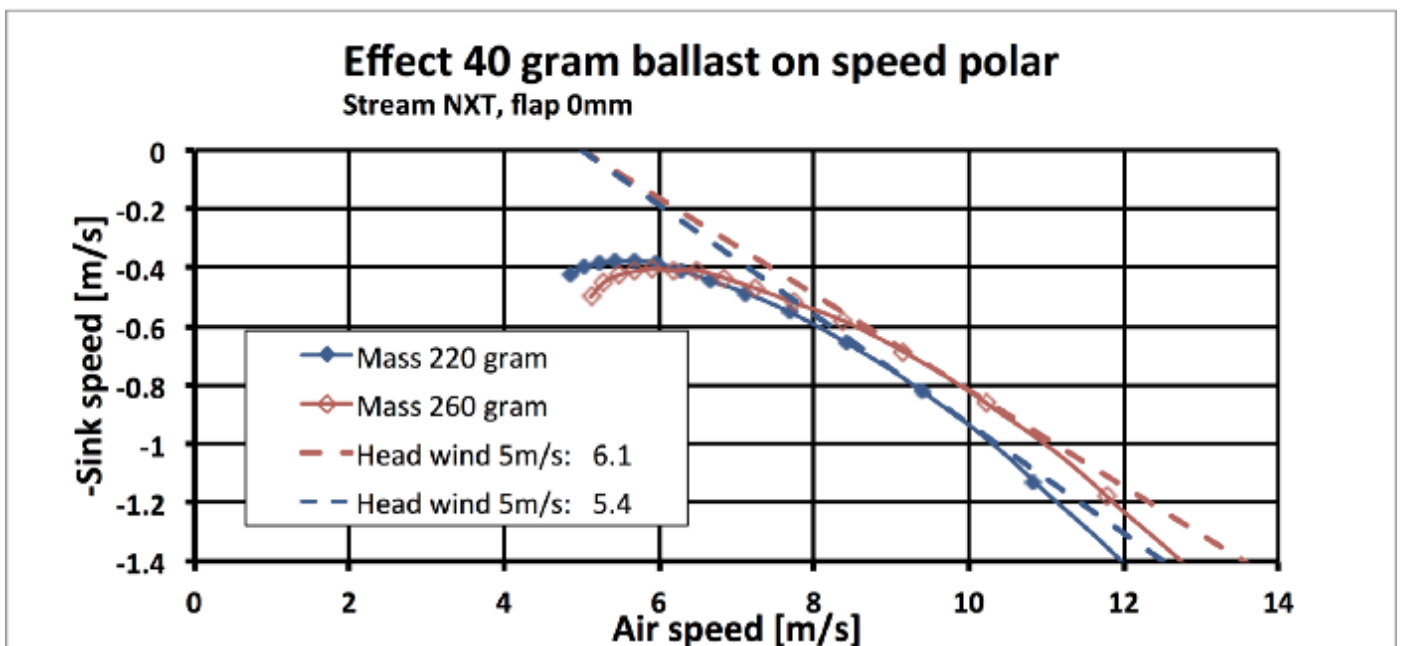

Figure 12: Influence of 40 grams of ballast on the glide angle.
**The why of adding ballast:** In Figure 12 you can see what to do if there is a headwind of 5 m/s. This is almost at the end of the Beaufort 3 scale. You will then add ballast to penetrate into the wind better. The red dotted line indicates a better glide angle than the blue. By adding 40 g ballast the sink speed at best glide is then reduced from approx . 0.82 m/s to approx . 0.72 m/s. You can then fly back with a glide angle of 1 to 6.1 instead of 1 to 5.4. You can then fly approximately 13% further in a thermal downwind. Perhaps that is an extra circuit in the thermal. You have to weigh that against the slightly lower climb rate in the thermals, because the minimum sink rate increases a bit.